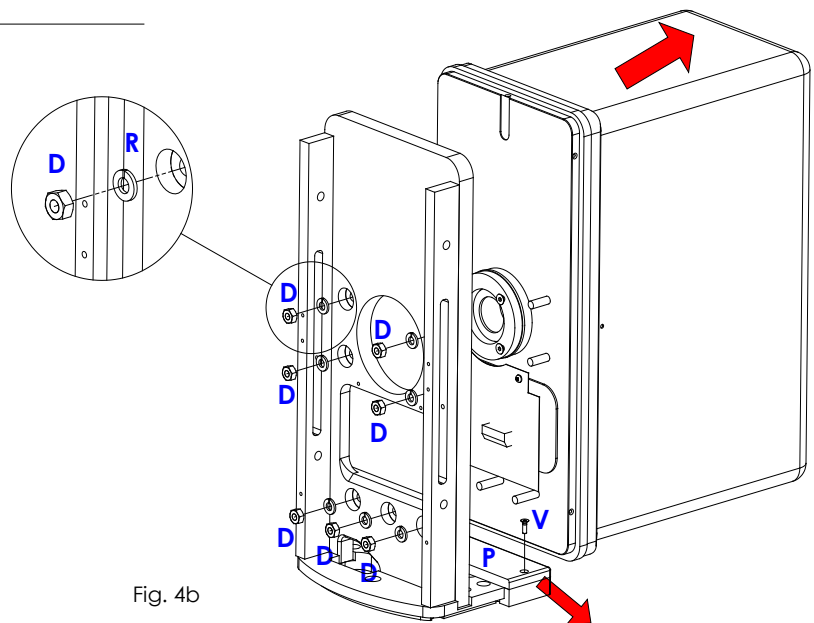

Fig. 4b
- Unscrew the 2 screws (V) and remove the plate (P).
- Remove the 7 nuts (D) and their spring washers (R) (see Fig.4b).